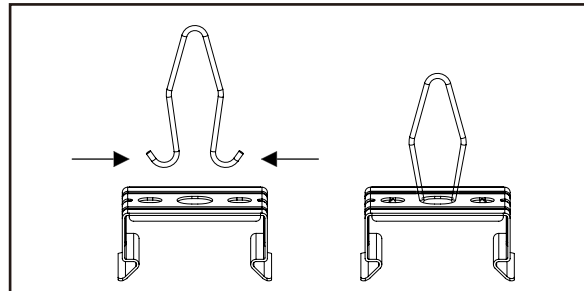

Figure 5.
5. Press the V-Hook (B) from the sides and pass it through the center hole on the bracket. Ensure the legs of the hook are inserted into the side holes located on the top face of the mounting bracket (Figure 5). If mounting with chain (by others), secure chain to structure (by others) and loop through V-hook (B).